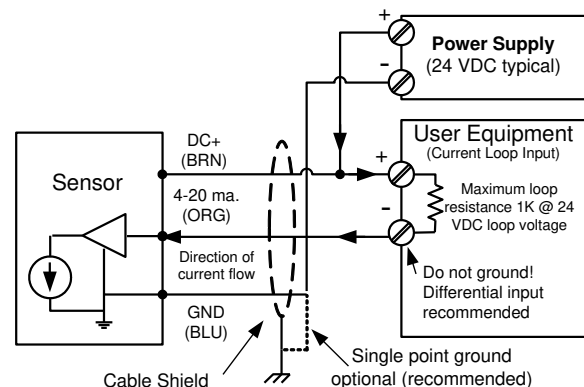

Figure 12 - Sinking Current Loop Wiring
equipment then INTO the sensor (ORG wire) as shown in Figure 12.
*The analog inputs of User Equipment in Figure 12 are either differential (both + and – terminals) or single ended (+ and GND terminals). A differential input is recommended at the user equipment. If the user equipment is single ended (+ input and GND) the sensor and user equipment cannot share a common ground or the current loop will not work.*